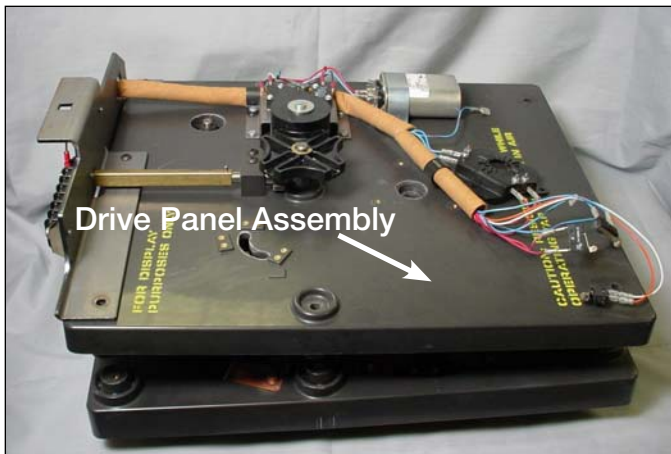

Figure 20.
- Place and align the tap changer drive assembly section on top of the contact panel assembly. See Figure 20.